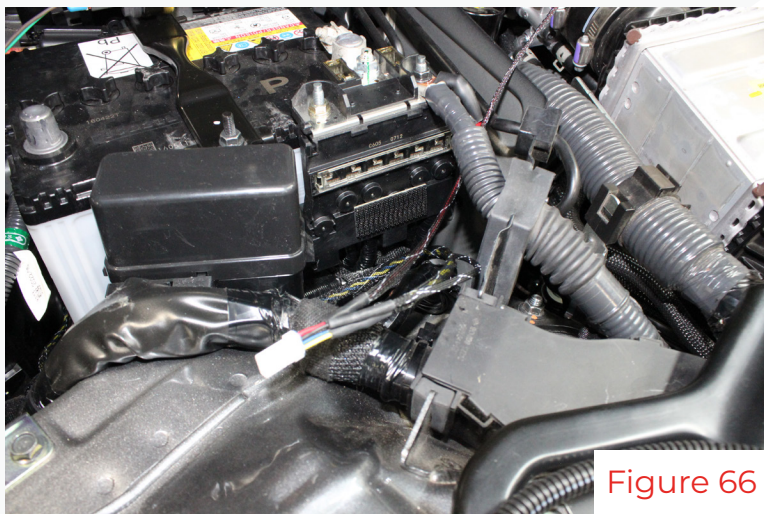

Figure 66
31. Reinstall the battery and positive terminal only. (fig 66)